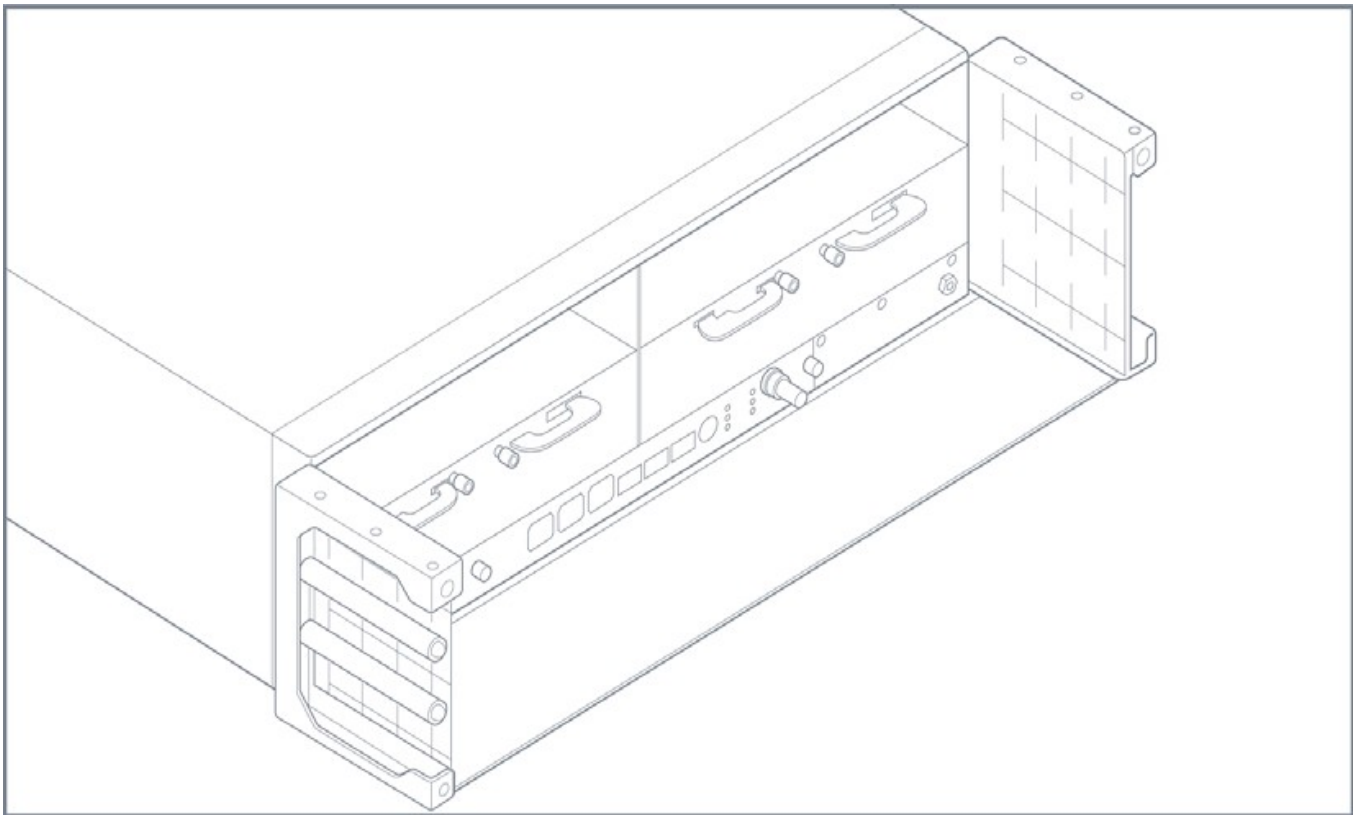

Figure 3-7: Cable Management Sides and Bottom Plate
2. To install cable management on the GigaVUE-HC3 node, first attach the sides to the left and right of the chassis. Attach two screws on each side of the chassis as shown in Figure 3-7.
3. Slide the bottom plate onto the two sides as shown in Figure 3-7.
6. Tighten the two screws at the front on the cable management assembly as shown in Figure 3-7.